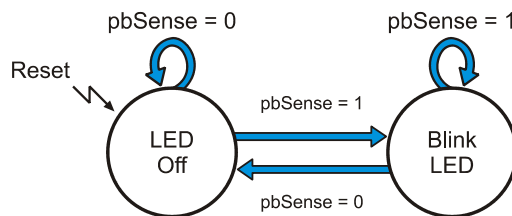

Figure 4-9
Figure 4-9 shows an example of a simple state diagram. Each circle signifies a state that the SumoBot can operate in. Both states are labeled, LED Off and Blink LED. Some of the arrows curve around and point back to the same state while other arrows point to the other state. These arrows represent state transitions. Each state transition arrow is labeled with a condition, like `pbSense = 0` or `pbSense = 1`. The reset condition is the arrow with the jagged shaft labeled Reset, and it indicates that this system will start in the LED Off state.
State diagrams can be visual aids for describing the different states in certain programs along with the conditions the programs use to transition from one state to the next. For example, `PushButtonLed.bs2` can be thought of as the instructions to make the SumoBot a state machine implementation of Figure 4-9.
- ✓ Monitor the LED and Debug Terminal as you press and hold and then release the pushbutton on the SumoBot's breadboard. Do you agree that this program really does implement the state machine diagram in Figure 4-9? Is it the *only* way the figure can be implemented?
Here is the Main Routine from `FrontIrNavigation.bs2` (See Activity #2 in this chapter). If you rigidly adhered to the format from Figure 4-9 to make a state diagram for this code block, it would be pretty complicated. Certainly complicated enough to make it useless as a visual aid for designing more complex navigation routines.